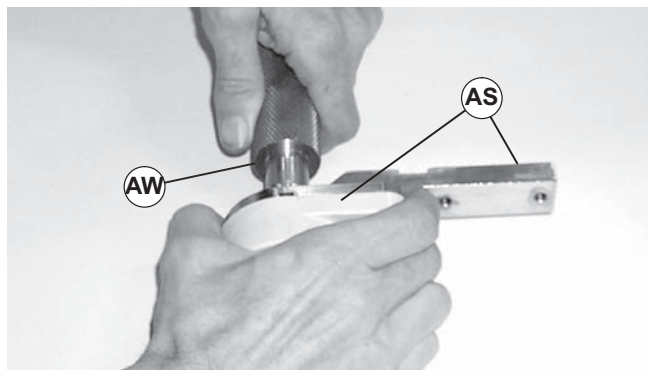

Figure 38
- Remove bearing and head plate assembly (AS of Figure 38) from drive spindle (AW).
1. Make sure bearing surfaces on drive spindle are free of nicks and burrs. Slide bearing and head plate assembly (Figure 38, item AS) on drive spindle (AW).